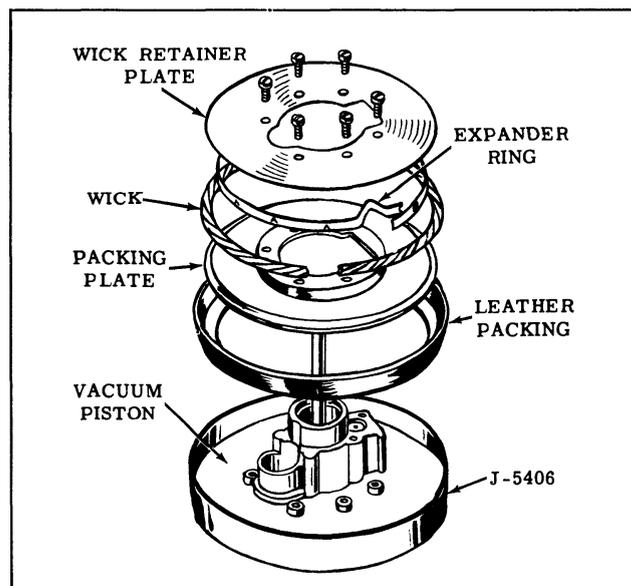

Fig. 7-52 Piston Packing Assembly
8. Install special assembly ring Tool J-5406 over vacuum piston assembly. (See Fig. 7-52)